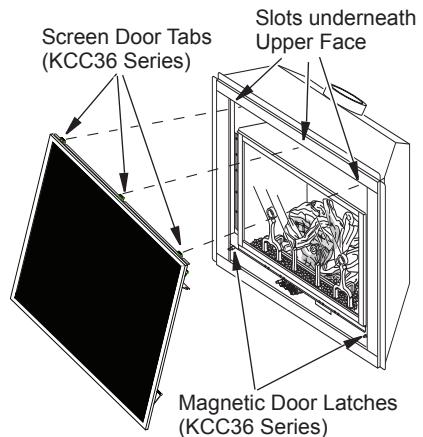

Figure 40 - Removing/Replacing Screen Door Assembly (KCC36 Series)
8. Replace screen door assembly, see removing screen door assembly, page 25 see Figure 40, for (V)KCC36 series.